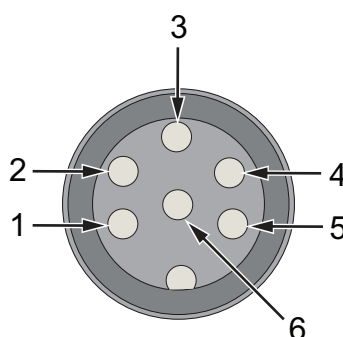

Figure 3-32: Status Output Connector Pin Diagram
The printer provides an output for a set of status (alert) lights through the status output connector. This provides +24 VDC output, the printer will switch in a ground to turn on the light. This is a 6- way DIN connector. The pin allocation is shown in Table 3-3 on page 3-21 and Figure 3-32.
**Note:** Figure 3-32 represents the view of the connector from the back of the printer.